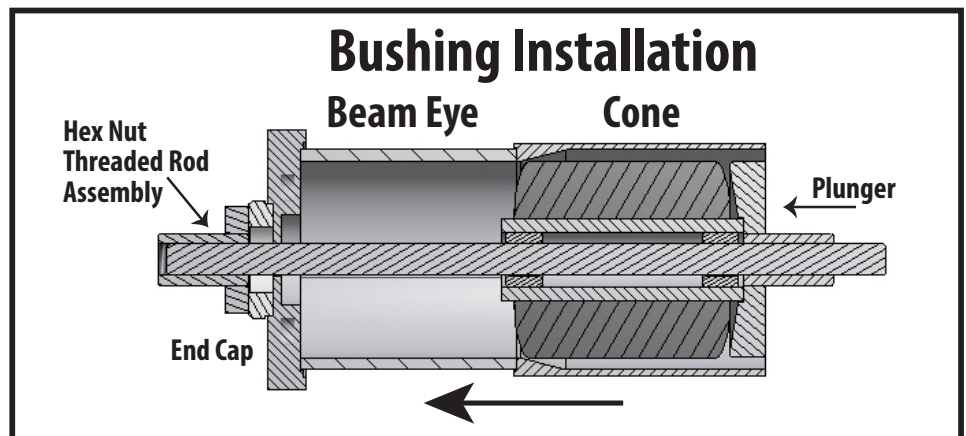

Figure 3.
4. Assemble the bushing replacement tool and place on the eye of the beam (Figure 3).